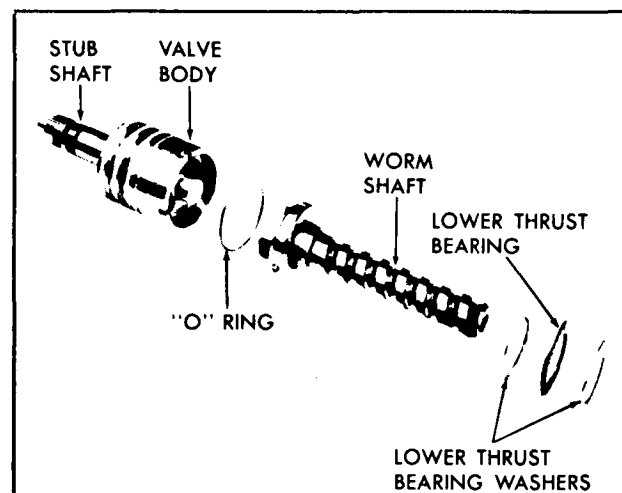

Figure 47—Worm and Valve Body
1. Lubricate the worm, lower thrust bearing and the two thrust washers with Power Steering Fluid, then install one thrust washer, the bearing, and the other thrust washer over the end of the worm (figure 47).